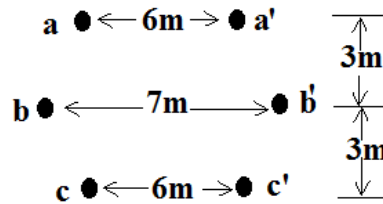

Fig. 4.1
6. Find the inductance per phase per km of line length of a 3- ϕ double circuit line shown in fig 4.1. The radius of each conductor is 0.9cm. (10M)